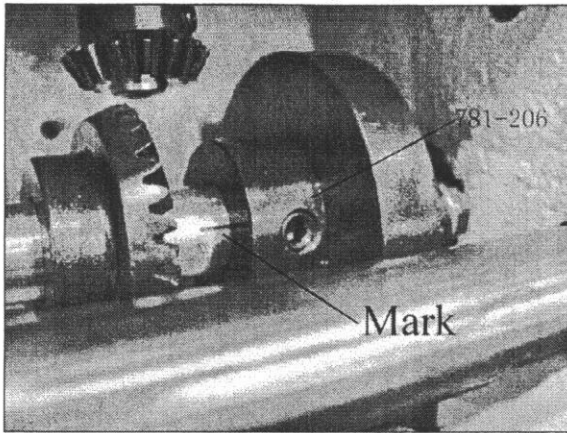
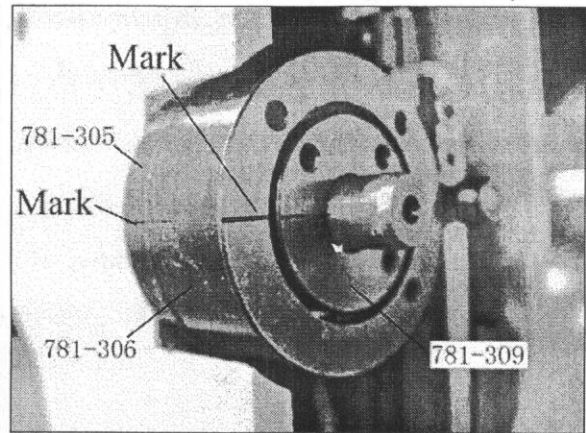

Fig.10
Fig.11
4.2 Adjusting the exchange of needles (Fig.10、 Fig.11)
- Adjust the cam (781-206), till the alignment mark on the side of cam (781-206) is in alignment with the alignment mark on the main shaft. (Fig.10)
- Loosen 2 screws on sprocket wheel (781-302), turn the outer flange (781-306) till the alignment mark on its surface is alignment with the alignment mark on the front flange (781-305). Retighten 2 screws on sprocket wheel (781-302) at last. (Fig.11)
alignment mark on its surface is alignment with the alignment mark on the outer flange (781-306). Retighten 2 screws on sprocket wheel (781-301) at last. (Fig.11)